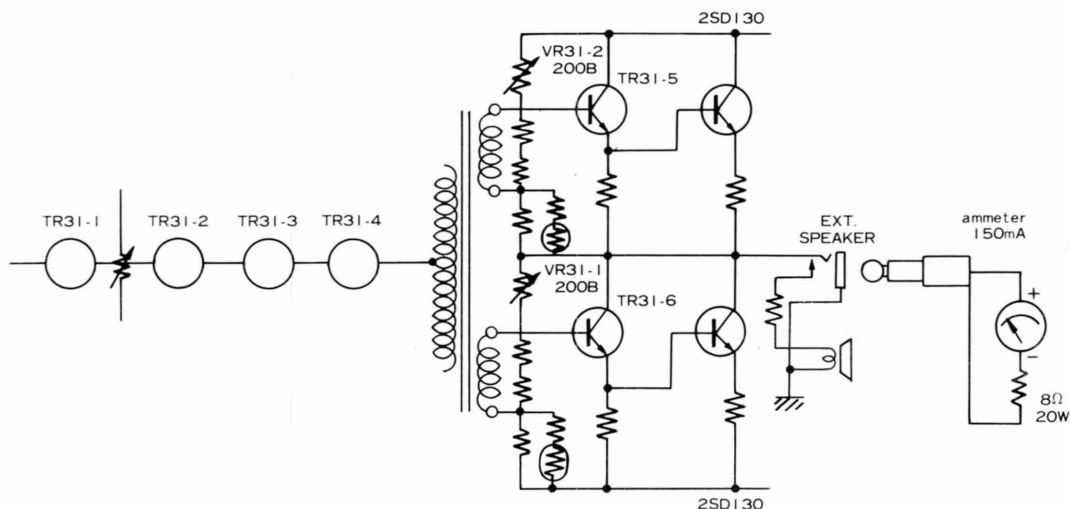

Fig. 1
- a) As shown in Fig. 1, connect the AM Meter (100 mA–150 mA scale) and a resistor ( $8\Omega$  20W) to the External Speaker Jack.